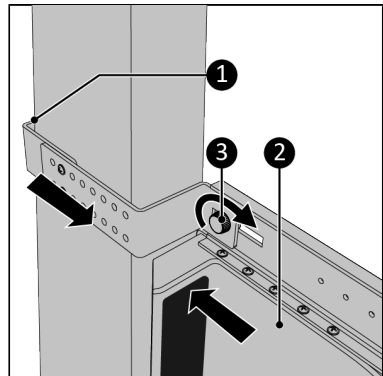

Figure 63.
9. Push the Way-out firmly against the window frame (Figure 63, pos. 2).
10. Pull the bracket as far towards you as possible (Figure 63, pos 1) so it clamps properly.
11. Tighten the screw cap (Figure 63, pos. 3).